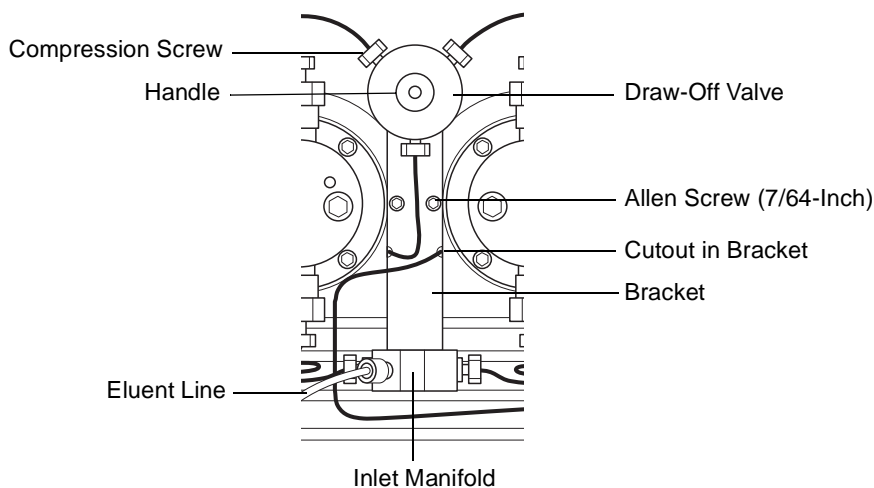

Figure 4-11 Draw-Off Valve/Inlet Manifold Assembly
5. Use the 5/16-inch open-end wrench to disconnect the three stainless compression screws from the draw-off valve (see Figure 4-11).
6. Use the 5/16-inch open-end wrench to disconnect the two stainless compression screws from the inlet manifold (these screws connect the inlet manifold to the inlet check valves). See Figure 4-11.
1. Attach the new draw-off valve to the bracket using the two Phillips screws. Make sure the new valve is oriented on the bracket as shown in Figure 4-11.